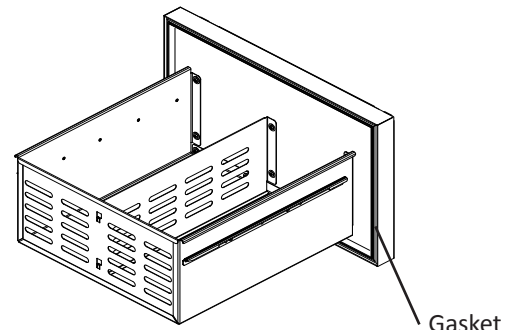

Figure 11
1. A #10 pan head wood screw should be used to properly secure the overlay panel. A total of 8 screws per drawer for the 60 unit and 10 screws per drawer for the 80 unit will be required. (See Figure 11). Necessary screws are supplied with unit.